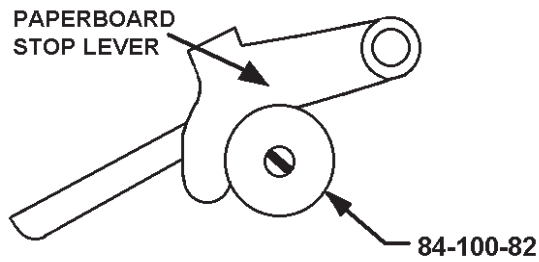

Figure 3
13. Lift paperboard Stop Lever [Figure 3] and place Paperboard Stop (P/N 84-100-82) on stud. Release lever so it rests in groove of Paper Board Stop. This prevents paperboard from coming up and hitting Feeder.